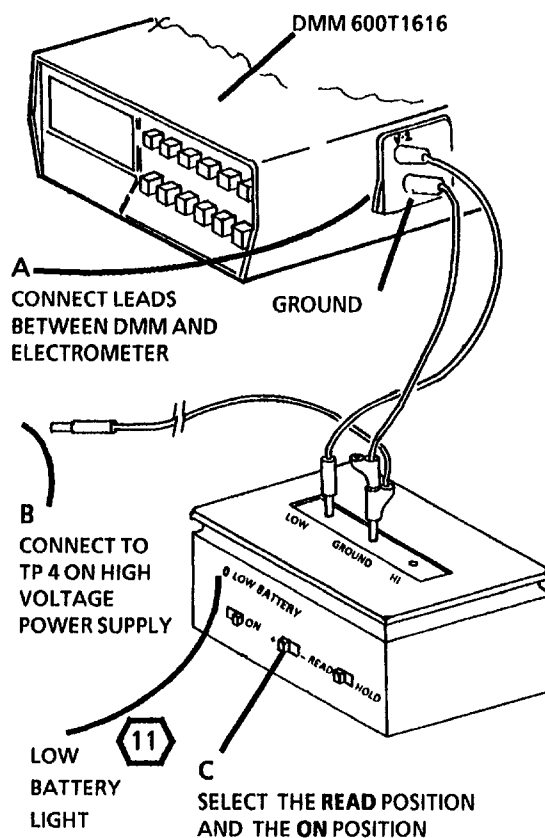

Figure 6. Connecting the Electrometer
13. (Figure 6): Connect the DMM to the Electrometer.